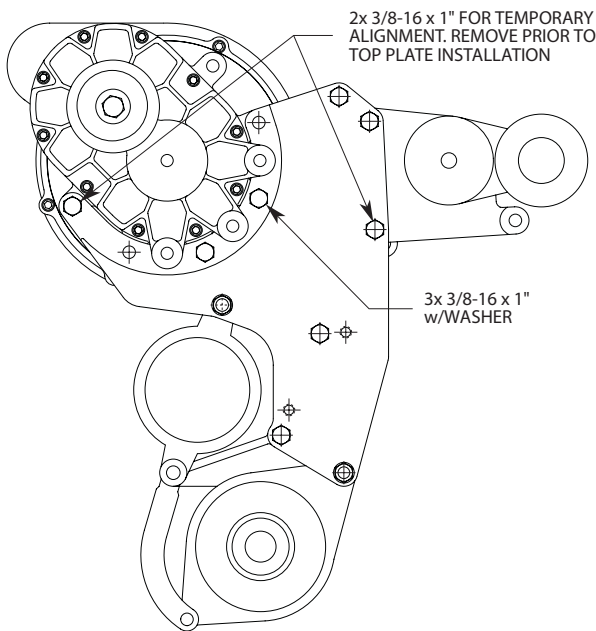

Fig. 1-b
- J. Feed the oil drain hose over the top of the smog pump and down towards the oil pan fitting while lowering the supercharger into position. Secure the supercharger with three 3/8-16 x 1" bolts and AN washers. (See Fig. 1-b.)